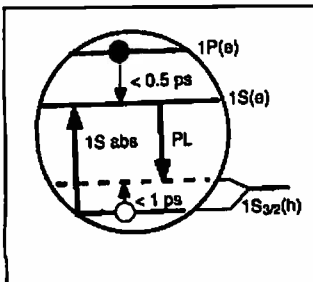
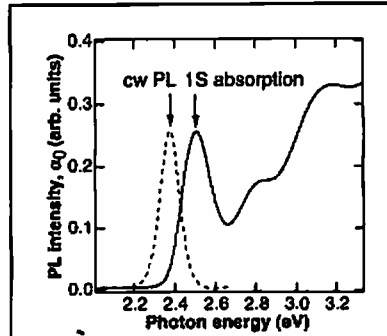

Figure 3a. Absorbing and emitting transitions in CdSe QDs along with intra-band relaxation processes.
Figure 3b. Absorption and CW PL spectra of CdSe QDs with Radii of 1.2nm at 300K. Absorption (solid line) PL emission (dashed line).
The absorption of colloidal QDs in the 1s electron state results in a photoluminescent (PL) output (Figure 3a). The Continuous-Wave (CW) emission is red-shifted (to the left) with respect to the lowest 1S absorption Figure 3b. This shift is thought to be due to a splitting of the lowest hole state as a result of crystal field and electron-hole exchange interactions. Hole relaxation from the absorbing to the emitting state is required